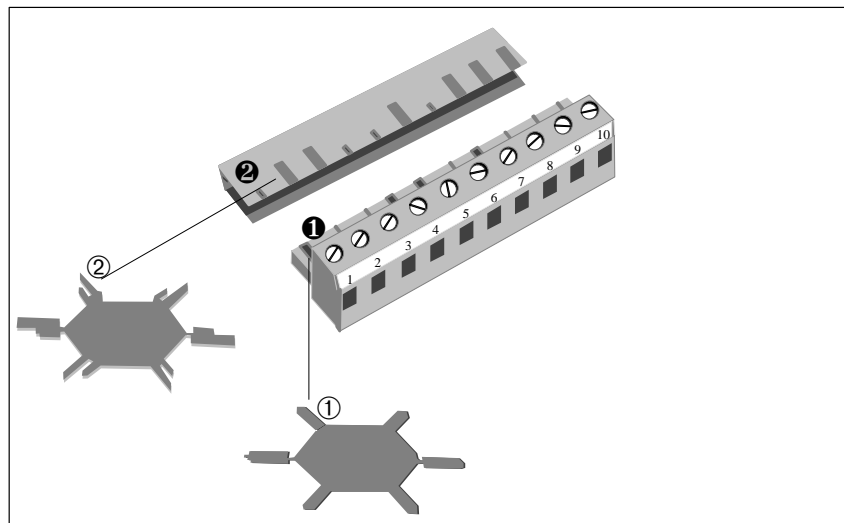

Figure 2-11 How to Key Connectors
The solid coding keys ① and profiled coding keys ② (see Figure 2-11) prevent a connector from being confused with another without polarity reversal.